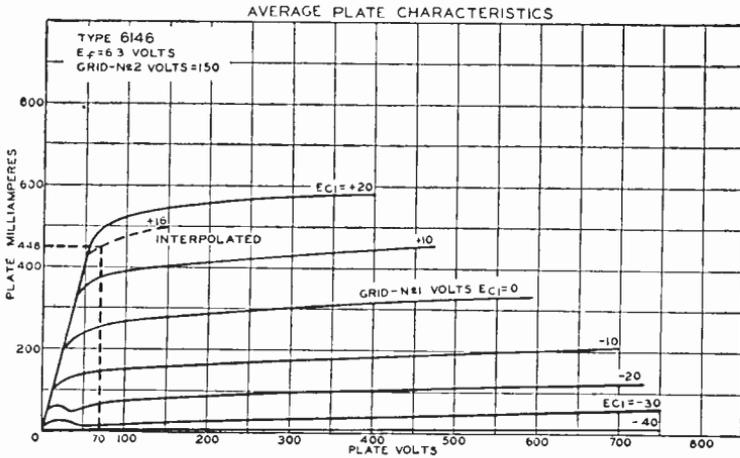

Fig. 44
(3) From the plate family for the 6146 given in Fig. 44 ( $E_{c2}=150$  volts), a suitable value for effective minimum plate voltage ( $e_{bmin}$ ) to the right of the "knee" is 70 volts. The corresponding peak positive grid-No.1 voltage ( $e_{c1max}$ , determined from  $E_{c1}$  curves) for a peak plate current of 448 milliamperes is approximately +16 volts.
(4) From Table I,  $K_2$  for a conduction angle of 140 degrees is 0.862. Therefore, power output ( $P_o$ )=0.862  $\times$  (600-70)  $\times$  0.112=51 watts.
(5) Plate dissipation ( $P_p$ ) = (600  $\times$  0.112) - 51 = 16.2 watts. This value is well within the maximum plate-dissipation rating of the 6146 for class C telegraphy under CCS conditions (20 watts).
(6) The dc grid-No.1 or bias voltage ( $E_{e1}$ ) and peak rf grid-No.1 voltage ( $E_{g1}$ ) are calculated next. (Note that bias voltage  $E_{e1}$  is not the  $E_{c1}$  shown in the characteristics curves, which represents total grid voltage, i.e., the algebraic sum of the bias  $E_{e1}$  and peak rf grid-No.1 voltage  $e_{c1max}$ ). From table I,  $K_3$  and  $K_4$  for a conduction angle of 140 degrees are, respectively, 0.520 and 1.520. From the technical data for the 6146, mu-factor ( $\mu_{e2g1}$ ) is 4.5. Therefore,